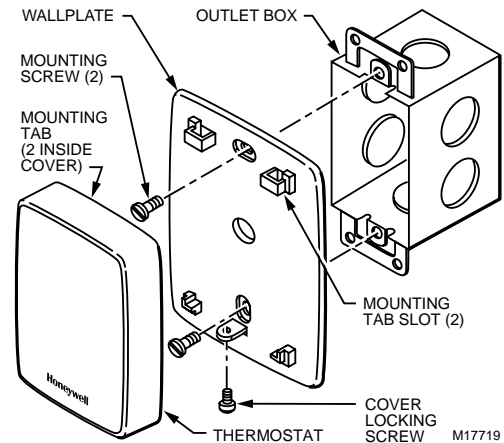

Fig. 3. Mounting the C7600B on an outlet box.
5. Fasten the C7600B on the wall or outlet box with screws through the wallplate mounting holes. See Fig. 3.